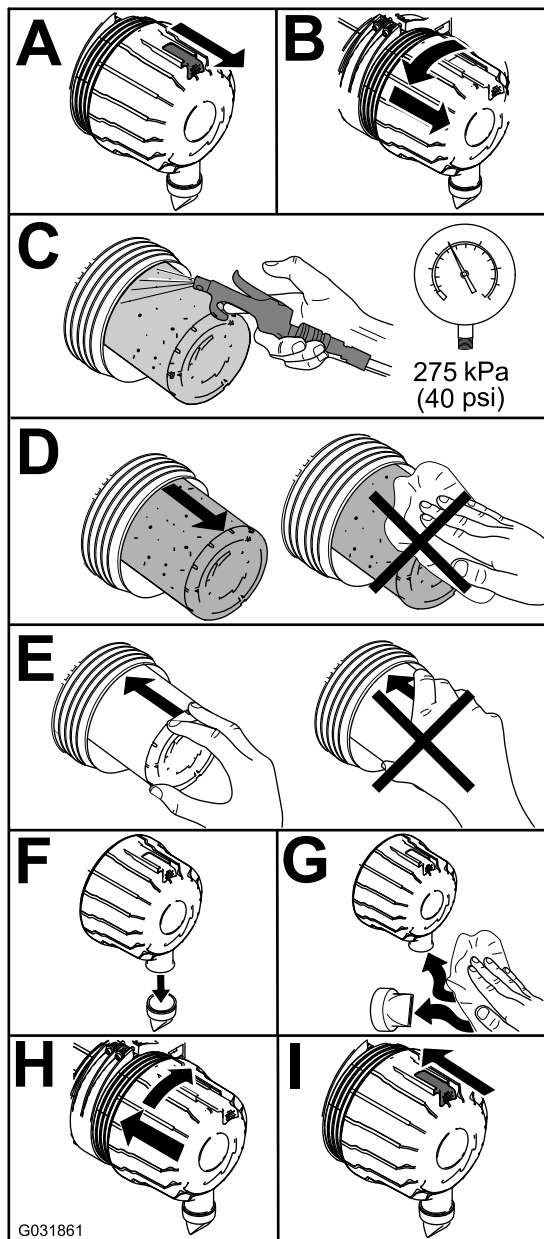

Figure 53
1. Replace the air cleaner (Figure 53).